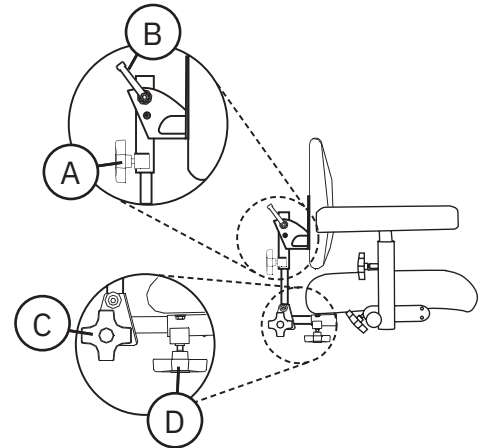

Figure 5.9. Medic TWIN back adjustment mechanism.
Medic TWIN can be adjusted in height (A), angle of backrest (B), angle of back rest mechanism (C) and depth (D), see Figure 5.9. The back recliner can be adjusted in the range of 15° forward to 45° backwards.